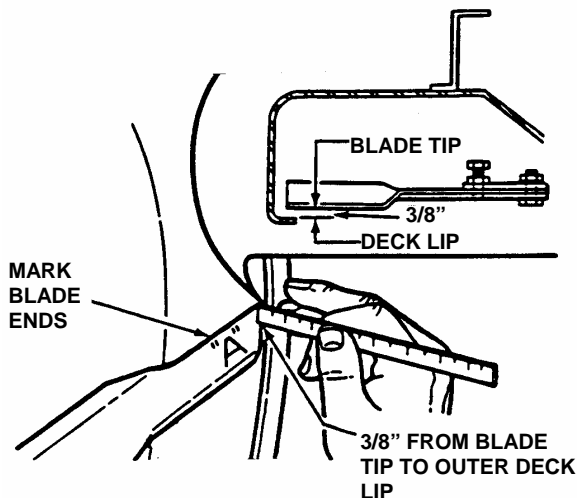

FIGURE 4.6
8. Measure the distance between deck lip and blade tip. NOTE: On 33" decks, the measurement between the blade tip and deck lip should be $3/8"$. See Figure 4.6.